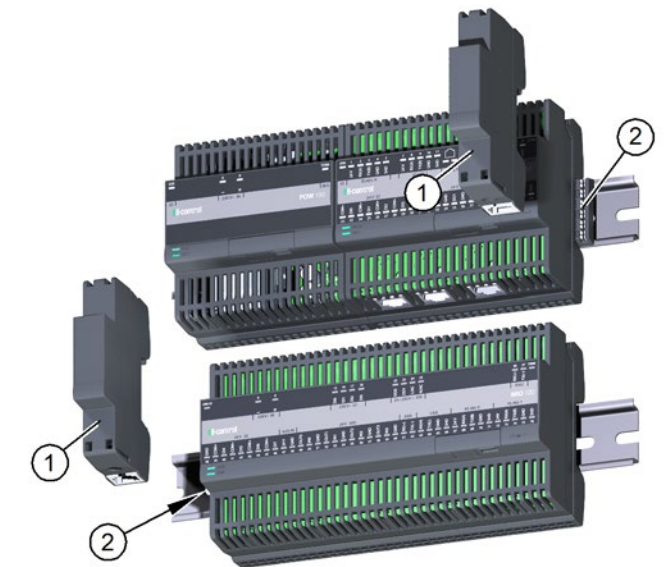

Fig. 2: Attach PAT100 modules
- ▶ Plug two PAT100 modules (item 1 in Fig. 2) into the backplane connectors (item 2 in Fig. 2) of the TQ-Automation modules that you want to connect.